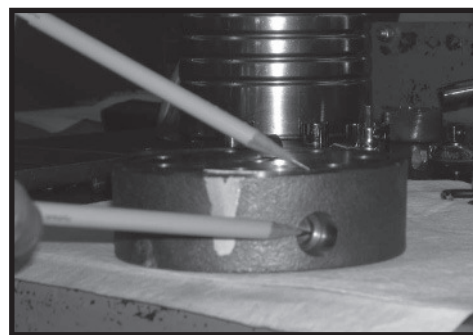

Figure 9
6. Thoroughly wash end cover (2) in proper solvent and blow dry. Be sure the end cover valve apertures, including the internal orifice plug, are free of contamination. Inspect end cover for cracks and the bolt head recesses for good bolt head sealing surfaces. Replace end cover as necessary. SEE FIGURE 9.